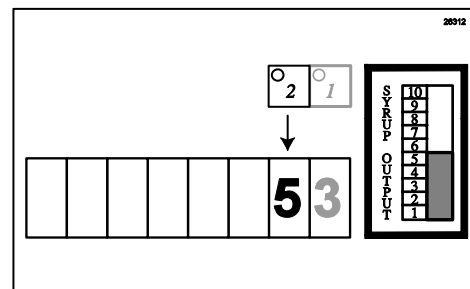

Figure 169
3. Touch the #2 key on the keypad and read your SYRUP OUTPUT bar graph. Write down the value as your second number from the right. (See Figure 169.)